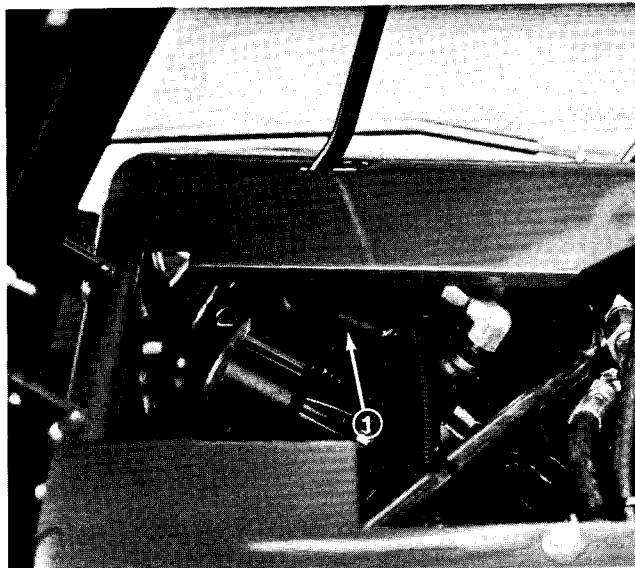

Figure 27
1. Pull connector off switch terminals from end of mow/lift switch installed in the valve bank bonnet (Fig. 27).
4. Connect continuity tester on ohm meter across switch terminals and turn switch in until continuity occurs. Then rotate switch in 1/2 turn (180) and secure jam nut to 75 in.-lb. (8.5 Nm) against the bonnet.